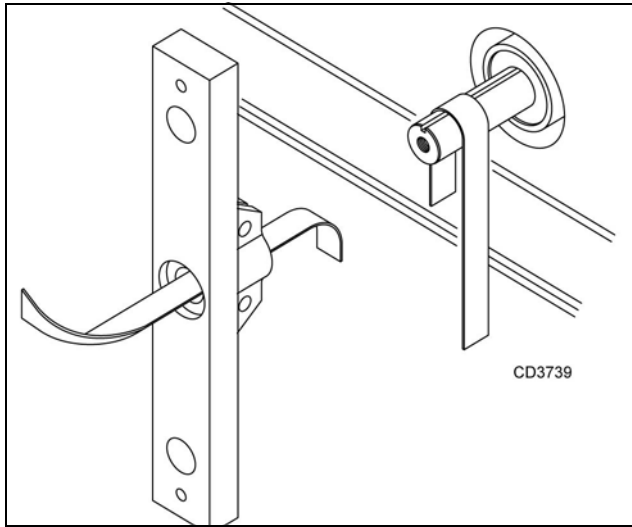

Figure 16. Typical Crossbar Assembly
- Using emery cloth (220 or finer), remove surface rust, Loctite®, and foreign material from hub, splined gearbox vertical shaft, and crossbar as shown in Figure 16.